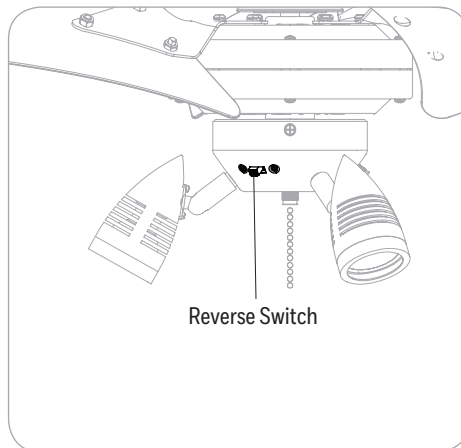

Figure 6.2
2. Use the reverse switch located on the switch housing to optimize your fan for seasonal performance. **In warmer weather**, push the reverse switch left which results in downward airflow creating a wind chill effect. **In cooler weather**, push the reverse switch right which results in upward airflow that will help move hot air of the ceiling (Figure 6.2).